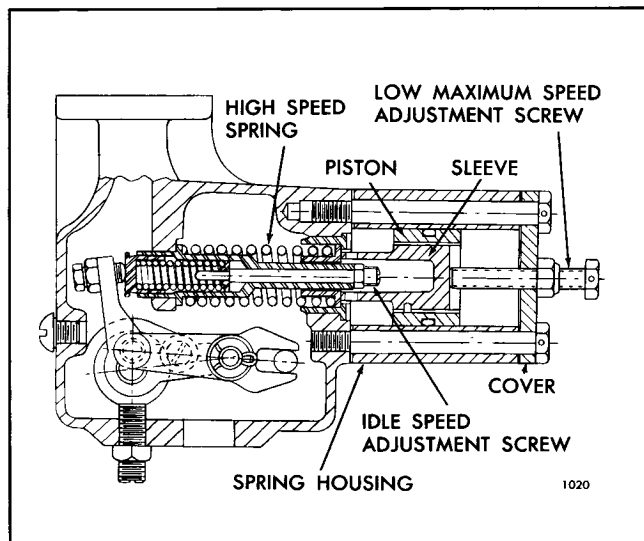

Fig. 4 - Dual Range Governor and Piston Assembly
With the spring housing mounted on the governor with both the piston and sleeve assembled as illustrated in Fig. 4, and the low maximum speed adjusting screw extending from the spring housing cover approximately 3/4" beyond the lock nut, proceed as follows:
1. Refer to Fig. 4 and remove the spring housing to uncover the idle speed adjusting screw on dual range governors.